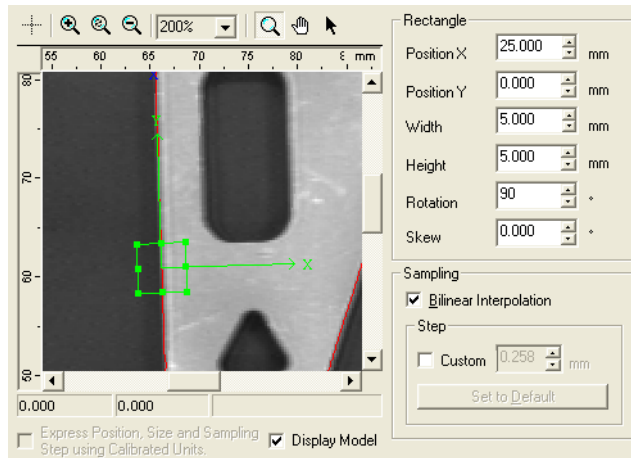

Figure 42 Adjusting the Size, Position and Orientation of the Edge Locator Rectangle
8. Place the Rectangle on the part as shown in Figure 42. Click the arrow of the X-axis and drag it to adjust the rotation to 90 degrees (the Y-axis is used to adjust the skew). Click the center of the Rectangle and drag it into position. Use the corner and side handles to adjust the width and height of the Rectangle. Fine-tune the position with the text boxes if needed. Once it is placed, click **Execute**.